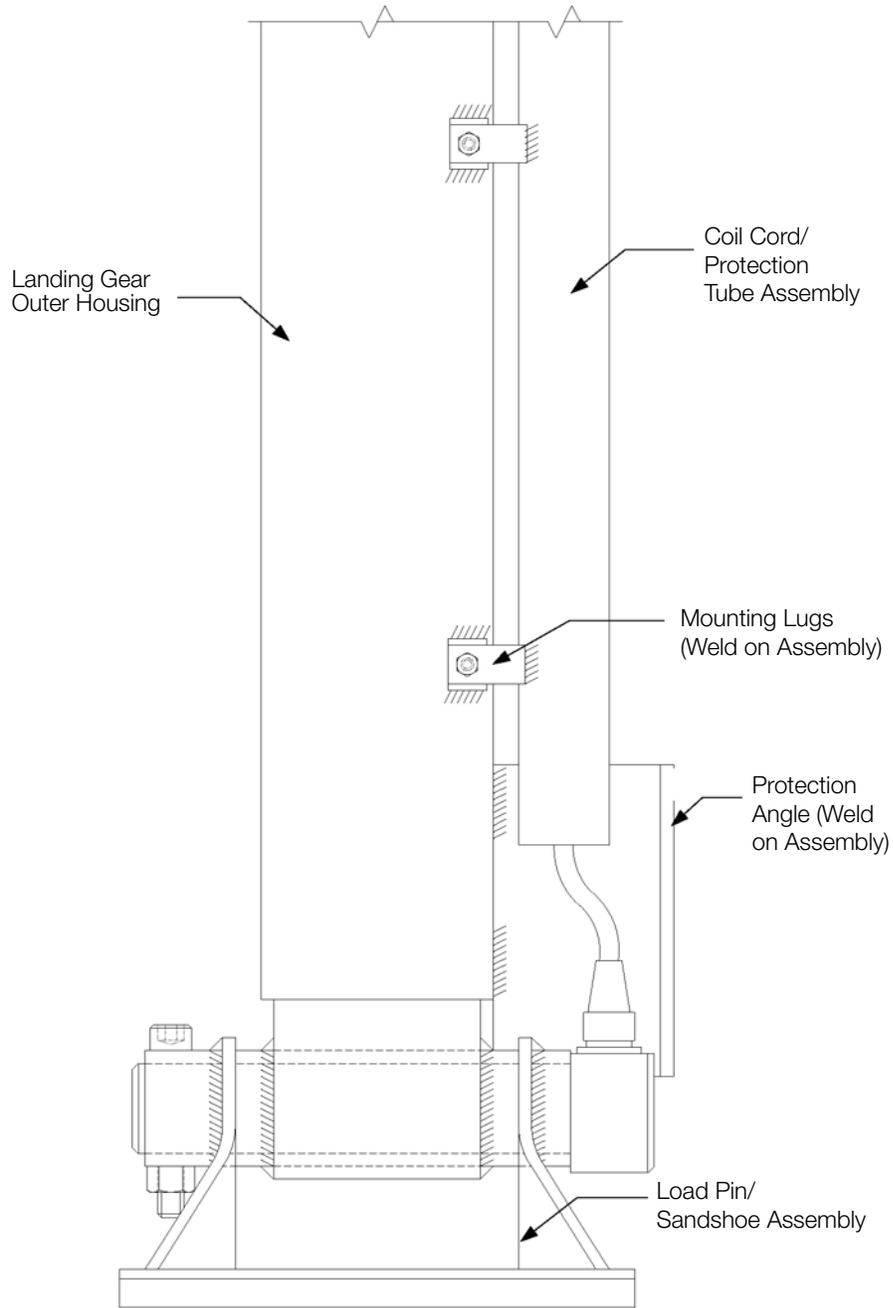

Figure 4-43. Typical Load Pin Landing Gear Installation Aft View
4. The installer is responsible for mounting a protective tube on the upper body of the landing leg assembly to pass the load pin output cable and mating coil cable through. See Figures 4-43 and 4-44. The outside diameter of the mating connector to the load pin cable is 1.25" (32 mm)
5. Adding a protective angle, as shown in Figures 4-43 and 4-44, is recommended to provide protection to the exposed area of the cable. Test the installation by raising and lowering the landing leg.